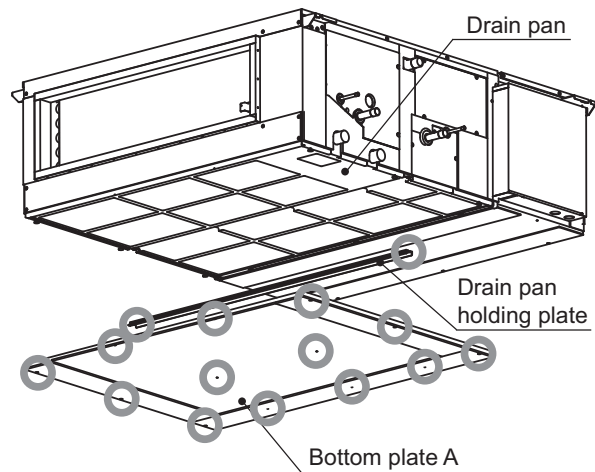

Fig.9
2. To remove the drain pan (Fig.9)